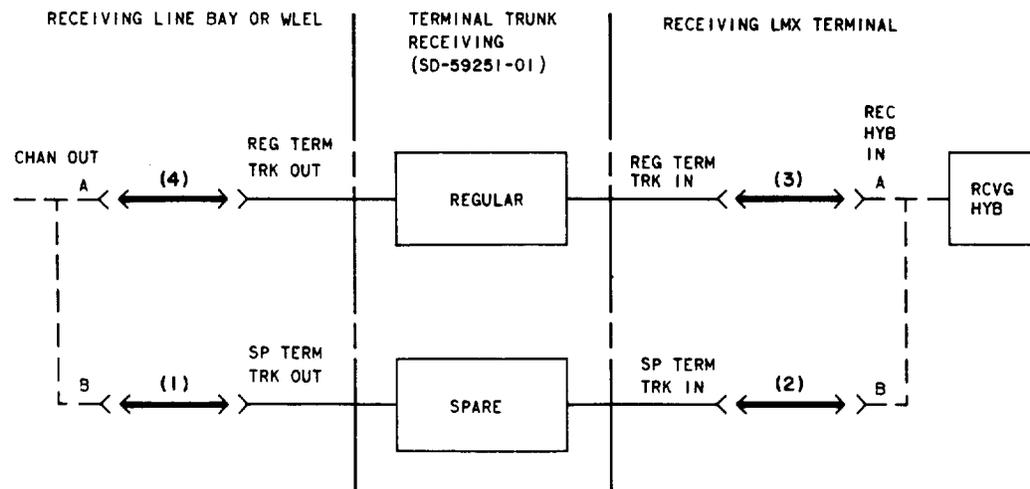

Fig. 4—Removing Regular Transmitting Trunks From Service—Patching Procedure
REASON FOR REISSUE: To correct Fig. 4
Removing Regular Receiving Trunks From Service (Fig. 4)
21 At the receiving line bay or WLEL, using a 372A plug, connect the CHAN OUT B jack to the SP TERM TRK OUT jack [patch (1), Fig. 4].
(a) Using a 372A plug, connect the REC HYB IN B jack to the SP TERM TRK IN jack [patch (2), Fig. 4].
(b) Remove the 372A plug from the REC HYB IN A and REG TERM TRK IN jacks [patch (3), Fig. 4].
25 At the receiving line bay or WLEL, remove the 372A plug from the CHAN OUT A and REG TERM TRK OUT jacks [patch (4), Fig. 4].